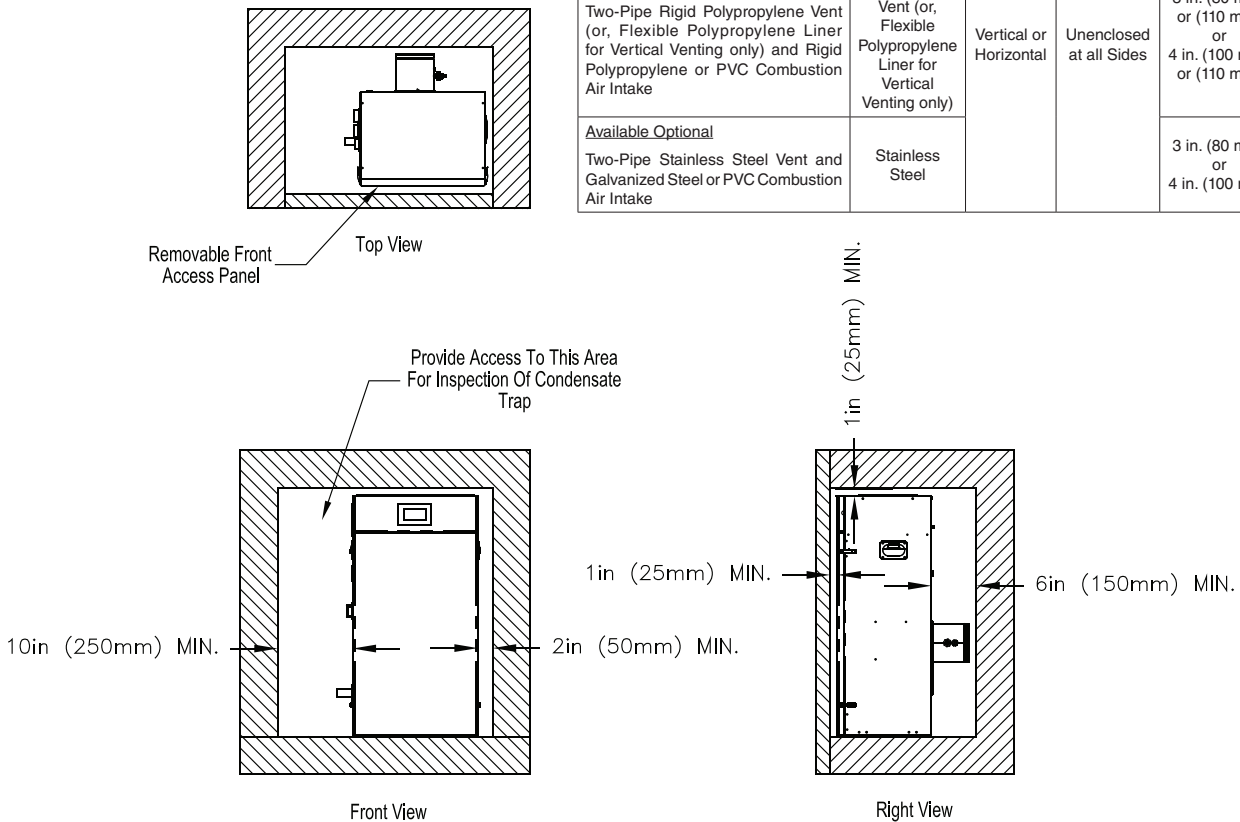

Figure 2A: Clearances To Combustible and Non-combustible Material, Floor Standing
- C. Provide clearance** between boiler jacket and combustible material in accordance with local fire ordinance. Refer to Figure 2A or 2B for minimum listed clearances from combustible material. Recommended service clearance is 24 in. (610 mm) from left side, front, top and rear of the boiler. Recommended front clearance may be reduced to the combustible material clearance providing:
CAUTION When positioning the template in the desired location on the wall insure that the *minimum clearances to combustible material at adjacent walls and ceiling are maintained. Consult Figures 2A through 2C in this manual. Be sure to allow space at the boiler left side for gas and water connections, as well as for access to the condensate trap and boiler controls for servicing.*